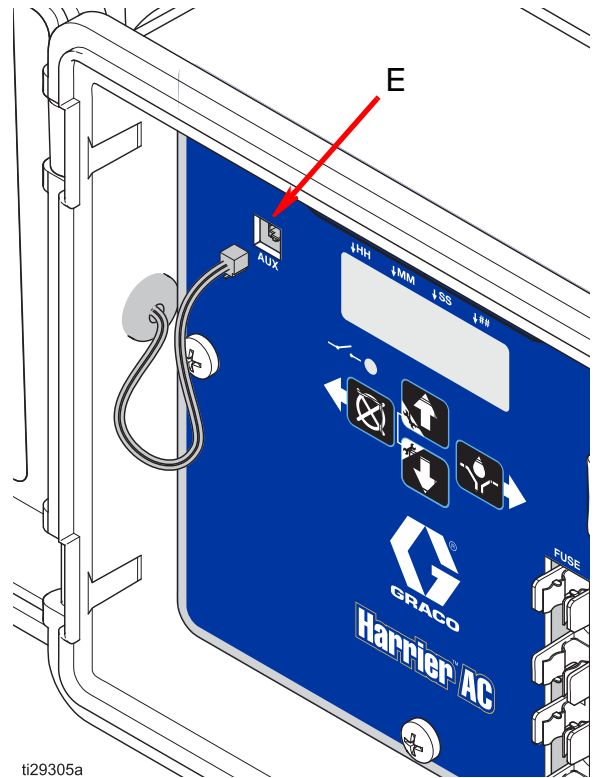

FIG. 16 Connect the auxiliary input connector to the AUX port
2. Push the auxiliary input connector through the hole and connect to the AUX port (E) on the controller keypad. See FIG. 16.